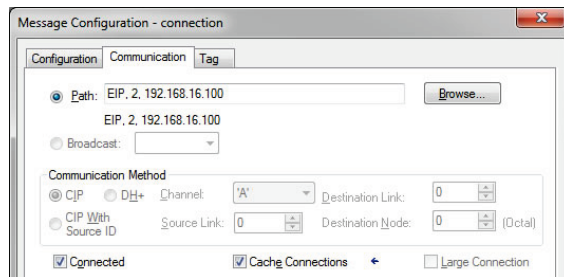

Figure 61: Setting the Communication Path
- d) “Communication” tab settings (refer to Figure 61):